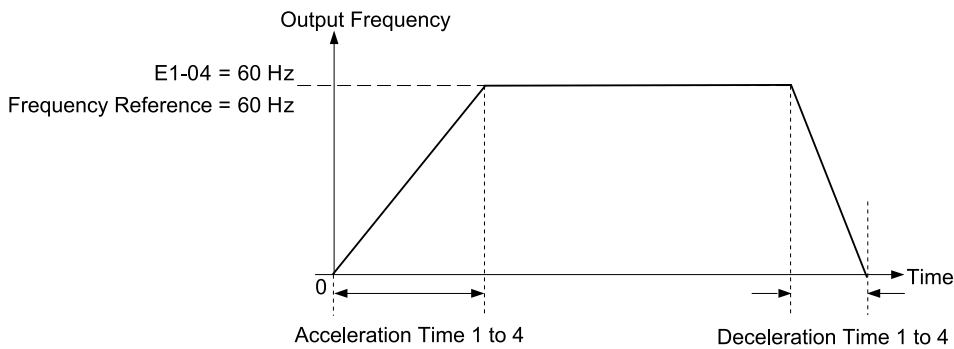
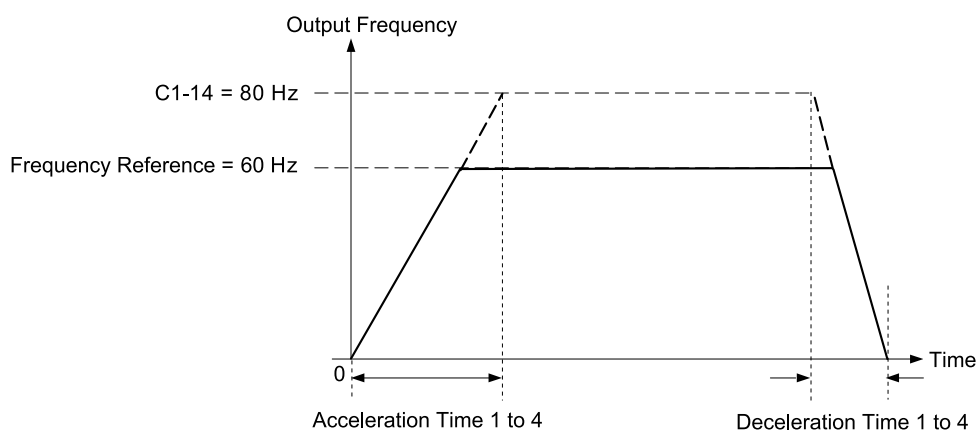

Figure 12.38 Example 1: Acceleration/Deceleration Rate (When C1-14 = 0 Hz, E1-04 = 60 Hz, and the Frequency Reference is 60 Hz)
Figure 12.40 Example 3: Acceleration/Deceleration Rate (When C1-14 = 80 Hz, E1-04 = 60 Hz, and the Frequency Reference is 60 Hz)
- Figure 12.38 to Figure 12.40 show the accel/decel times when C2-01 to C2-04 [Jerk@Start of Accel to Jerk@End of Decel] = 0.00 s.